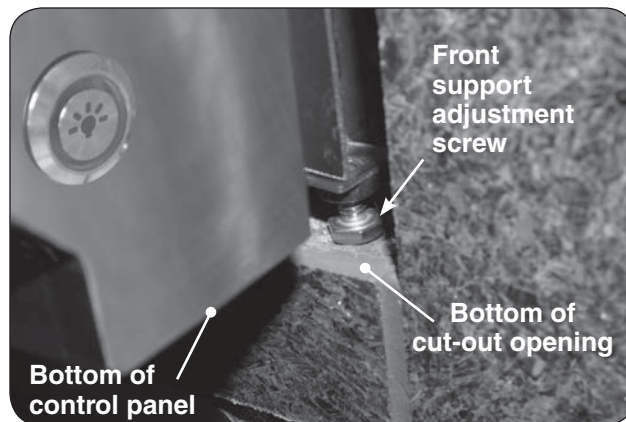

Fig. 21-1 Front support adjustment screws
6. Rotate the front support adjustment screws to the left to raise and to the right to lower the respective side of the appliance grill. Use a $\frac{7}{16}$ " open-end wrench as needed. See Fig. 21-1.